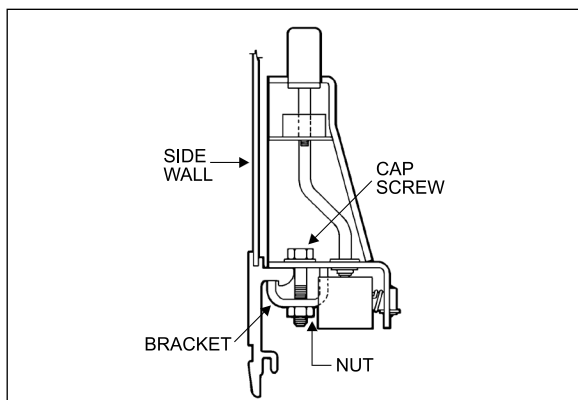
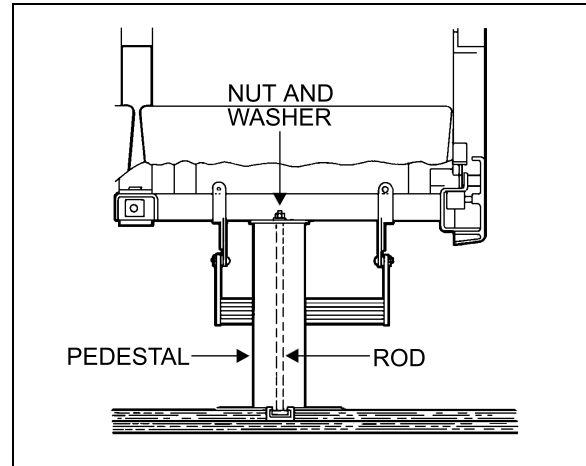

FIGURE 34: SIDE WALL MOUNTING
FIGURE 35: SEAT PEDESTAL ASSEMBLY
4. Remove 2 cap screws, nuts, and washers holding seat frame to side wall and retain the 2 holding brackets. See Figure 34 and Figure 35.